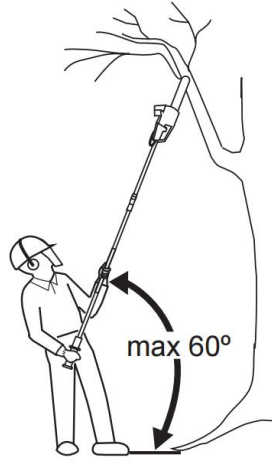

Fig. 50
3. Always hold the product at an angle of not more than 60° from the horizontal level. Otherwise safe operation is not possible (Fig. 50).